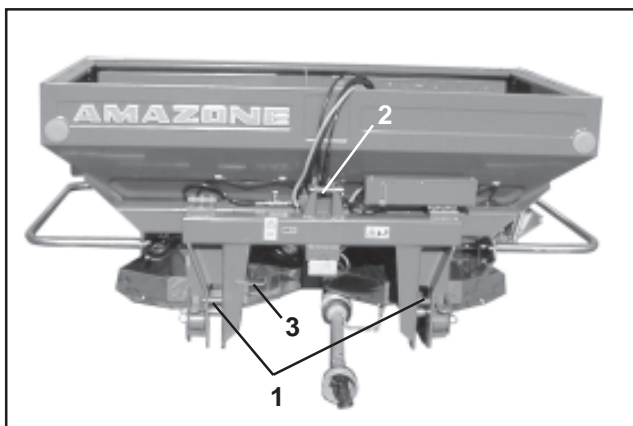

Fig. 5.1
- Fix lower link of tractor on lower link pin (cat. II) (Fig. 5.1/1) and secure with clip pin. Insert the pin into the upper hole of the lower link console. As standard this lower link console is equipped with a second lower link connection and allows a 120 mm higher mounting to the tractor (e. g. for late top dressing).
- Fix upper link with link pin (cat. II) (Fig. 5.1/2) and secure.
When parking the fertiliser spreader, the pto shaft should be placed into catching hooks provided (Fig. 5.1/3).